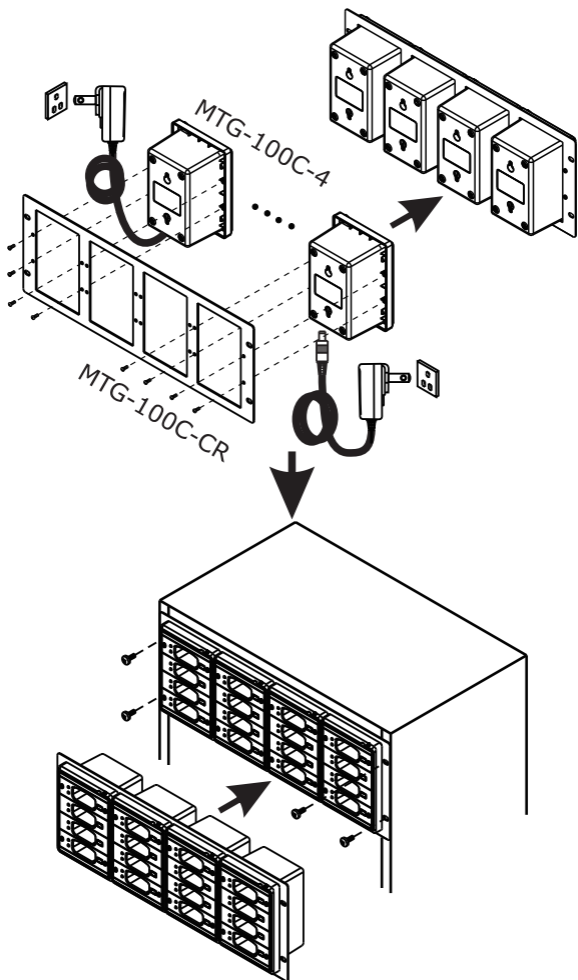

Fig. 24
2. MTG-100C-CR Installation, Fig. 24: